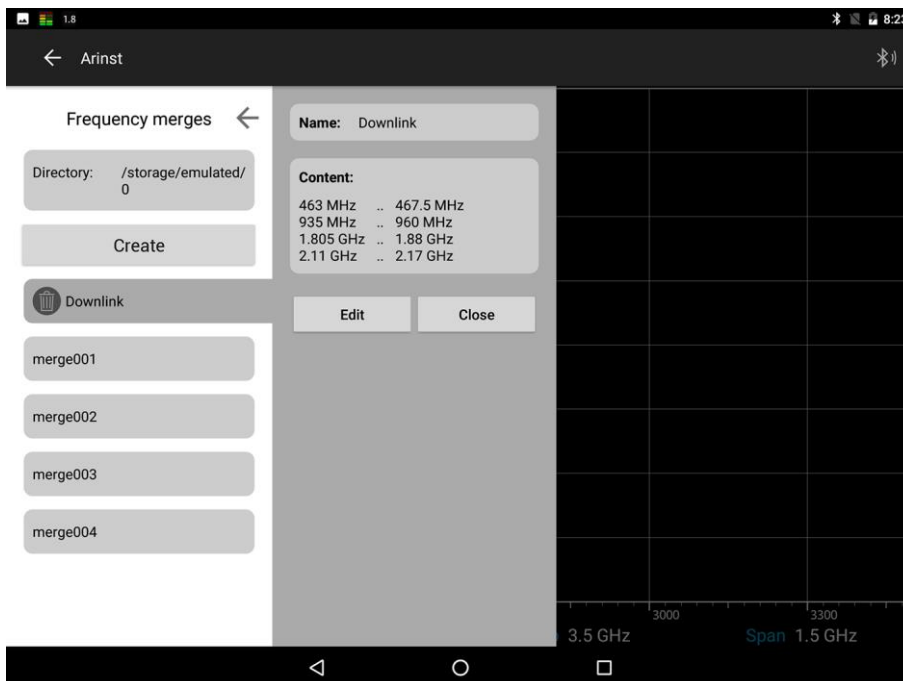

Figure 83 – Created list of frequency ranges
9.5.5. Go back to the **Frequency merges** menu and select the range list you created, as shown in figure 83. In our example, the Downlink list. In the opened tab, in addition to the name of the list, a list of frequency ranges is displayed.